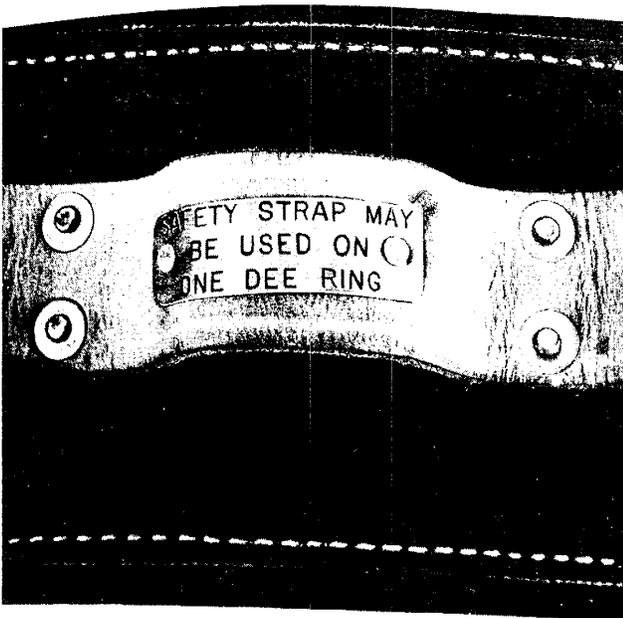

Fig. 6—Instruction Plate for D, E, and F Body Belts
- (1) Form the end of the handline into a loop and place the loop in the handline carrier.
- (2) Form the end of the handline into a bight and tuck the bight up under the body belt.
3.12 *A workman shall never secure himself with a safety strap that is placed around a pole, strand, or other support in such a manner that both snap hooks are engaged in the same Dee ring of the body belt except in specific instances covered in this practice and then only when using the D, E, or F Body Belts. The D, E, and F belts may be readily identified by a metal instruction plate as shown in Fig. 6.*